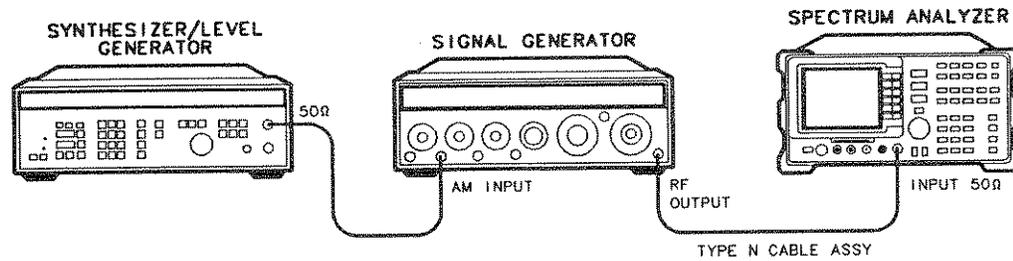

Figure 4-28. Fast Sweep Time Test Setup
- Connect the equipment as shown in Figure 4-28. *Option 026:* Use the APC to Type N adapter.